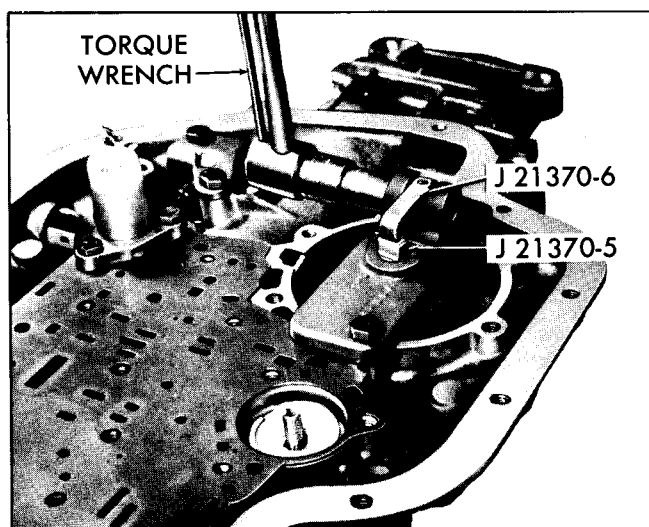

Fig. 7E-205 Checking for Proper Band Apply Pin
11. Connect detent wire and lead wire to electrical connector (Fig. 7E-204).